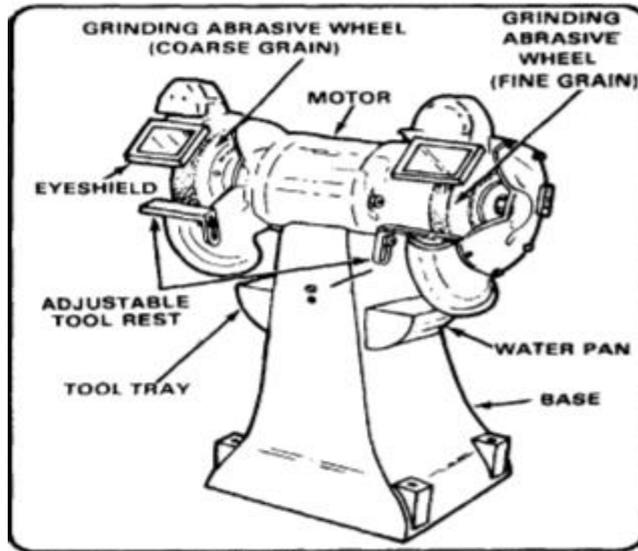

Figure20. Floor-mounted utility grinding machine
- **BENCH-TYPE TOOL AND CUTTER GRINDER:** The bench-type tool and cutter grinder, see Figure 20, was designed primarily to grind end mills. It can also grind a large variety of small wood and steel cutters as well as slitting saw cutters up to 12 inches in diameter using the saw grinding attachment. Capacity grinder is as follows: